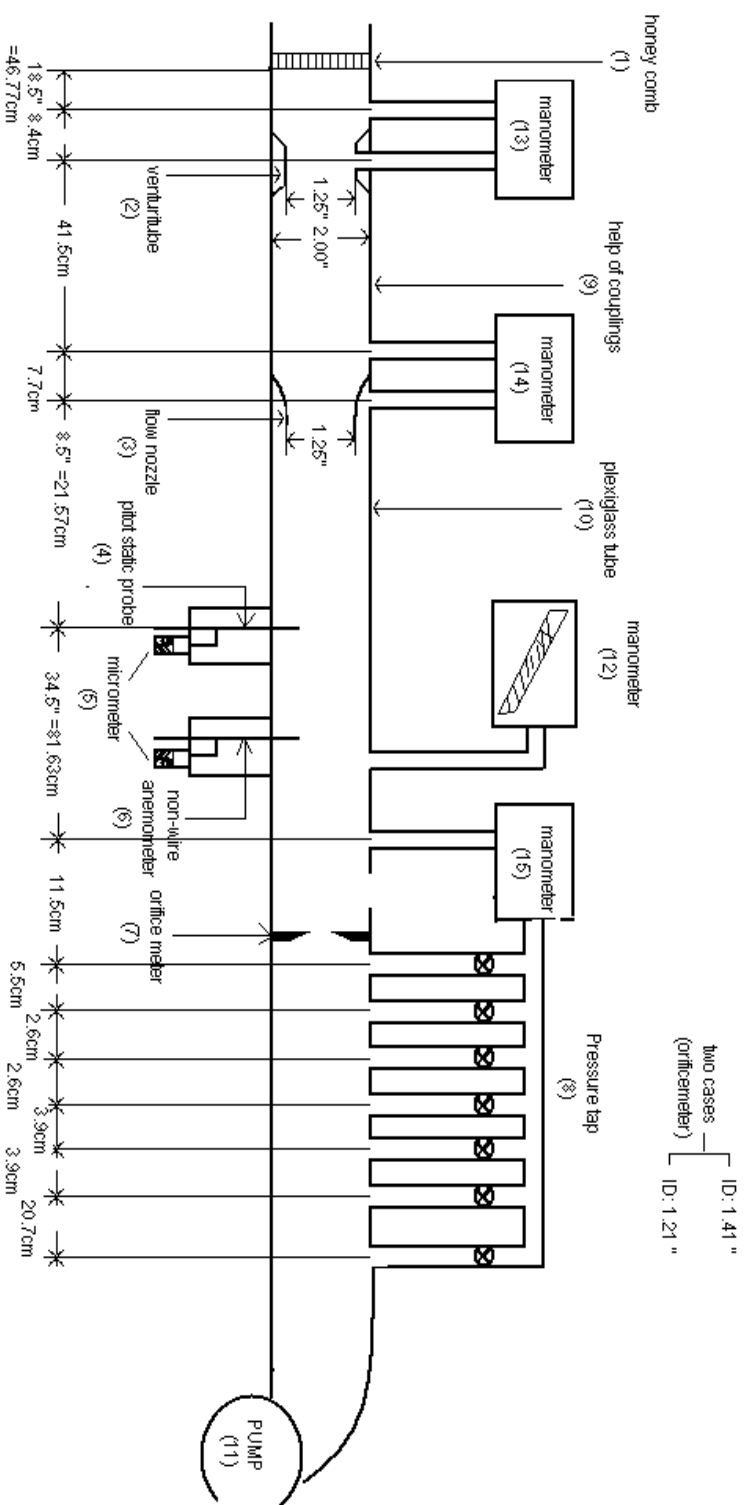

Figure 1: Flow Measurement
1. The apparatus consist of a honey comb structure (1), at the inlet of pipe to reduce the entrance effect. The flow device attached upstream of the pipe is a venturi tube (2) with throat to main diameter ratio: 1.25 to 2.00 in inches. Following venturi tube in series is , ASME flow nozzle (3) with throat to main diameter ratio: 1.25 to 2.00 in inches. Following flow nozzle is a pitot-static probe (4) for local velocity measurement. The pitot probe is attached to a traversing mechanism with a micrometer (5) to obtain different radial locations. The last device is an orifice meter (7) 1.25 inch. A number of pressure taps (8) are provided along the orifice meter to study the pressure drop across orifice, total pressure loss and pressure recovery.
All measuring devices are connected in series as shown in Fig.1, along the length of 2.0 inch ID plexiglass tube (10), with the help of couplings (9). The air flow is provided by a suction pump system (11) at the exit of the plexiglass tube. The bulk velocity range in the pipe will be of the order of 5 to 20 meters per second. Venturi tube, orifice meter and nozzle are provided with appropriate pressure sense lines to measure pressure drop due to air flow. These flow meters are provided with manometers to facilitate measurement of pressure drop across each meters and to estimate pressure drop along the length of the pipe. In figure 2 and 3 the